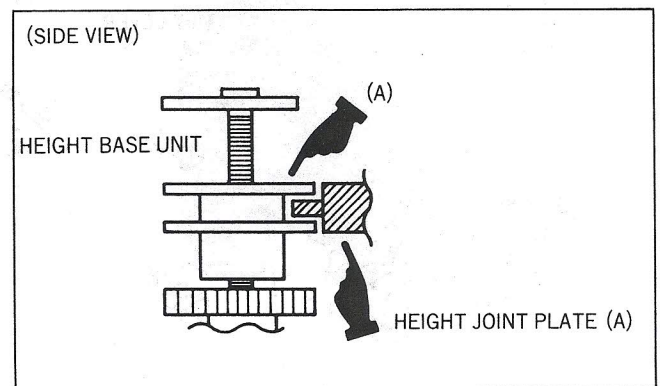

Fig. 8-6
3. Lift the Optical Pick-up a little and then install the Height Base so that the Pin (A) of the Height Joint Plate fits the (H) position of Height Base as shown in Fig. 8-6. Then install the Height Spring (A) and (B).